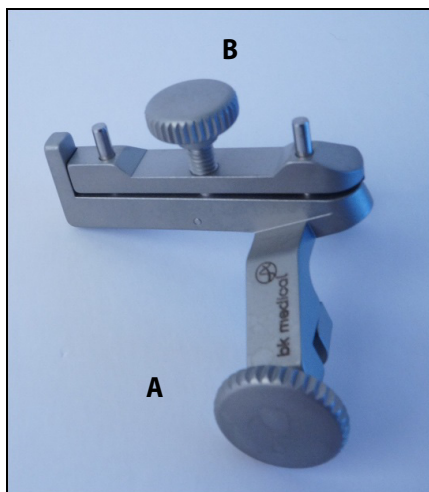

Figure 2. Puncture attachment UA1250.
The puncture attachment (see Figure 2) comprises an attachment bracket, an attachment lock screw (item A in Figure 2), a needle guide, a needle-guide lock screw (item B in Figure 2) and a variable diameter holder for fine needles (0.6 mm or 24 gauge) and large bore needles (2.4 mm or 13 gauge). The guide channel is angled at 18° to the transducer's image axis.
Note: When mounted the attachment lock screw (item A in Figure 2) should be on the side of the transducer handle opposite to the transducer's control button.
- 2** Fix the attachment bracket in position by tightening the attachment lock screw (item A in Figure 2). Tighten the screw up to its “locking point”, after which it will not be possible to tighten the screw anymore.
- 4** Using the needle guide locking screw (item B in Figure 2), adjust the needle guide according to the size of needle to be used.